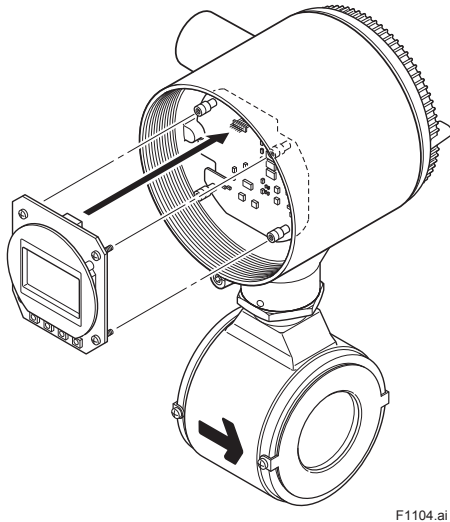

Figure 11.2.2 Removing and Assembling the Display Unit
- (1) Hold the display unit with your hand and loosen the four mounting screws. Remove the display unit by pulling it in a straight, taking care not to damage it (Read Figure 11.2.2).
(3) Assembling the Display Unit